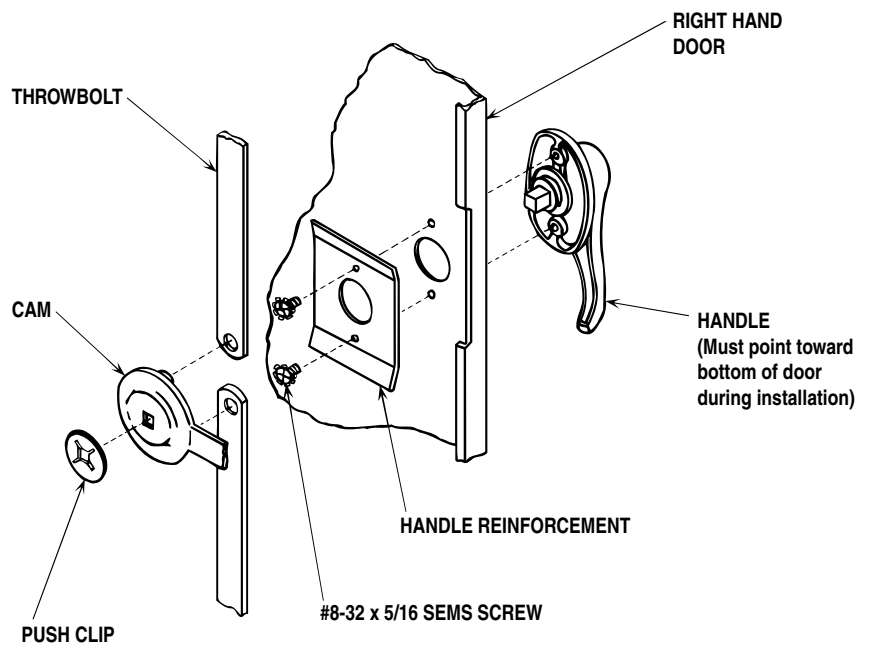

FIGURE 10
6. See Figure 10 and . . .
- a. Fasten handle reinforcement (Item 1) and door handle with lock (Item 2) to right hand door with two (2) screws (Item 4).